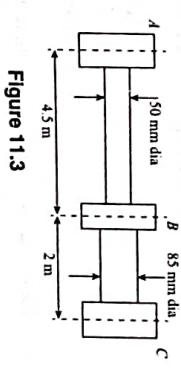

Figure 11.3
**EXAMPLE 11.9:** A shaft shown in Fig. 11.3 rotates at 220 r.p.m. with 35 kW and 20 kW taken off at A and B, respectively and 50 kW applied at C. Find the maximum shear stress developed in the shaft and the angle of twist (degrees) of the gear A relative to gear C. Take  $C = 85 \text{ GPa/m}^2$ .